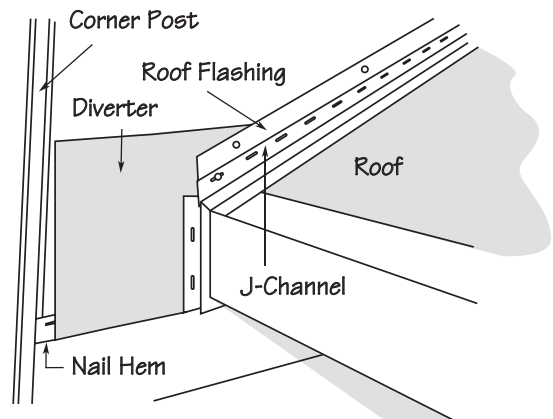

Figure 40.
- Cut a diverter from aluminum trim sheet, making sure it sits on the nail hem of the last full course (Fig. 40). Also make sure to slip it behind all J-channels and roof flashing (similar to flashing the bottom of window detail shown on page 19).